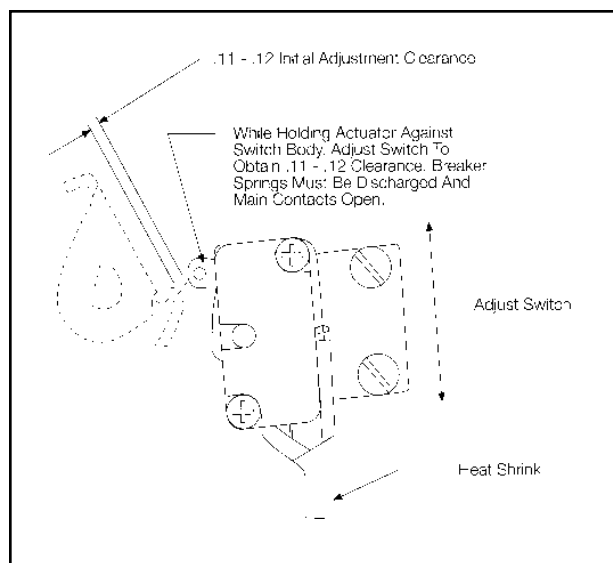

Figure 3. Latch Check Switch Assembly
- 6.) Adjust switch (see Figure 3). When switch is properly adjusted tighten screws. Note: Torque screws to 8-11 in. lbs.